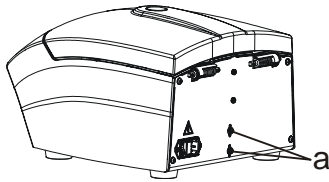

Fig. 1
- Loosen both screws (Fig. 1, a) at the angle bracket of the imbalance switch on the rear side of the device until you can shift the angle bracket.
- Tighten both screws (Fig. 1, a) at the angle bracket of the imbalance switch again.